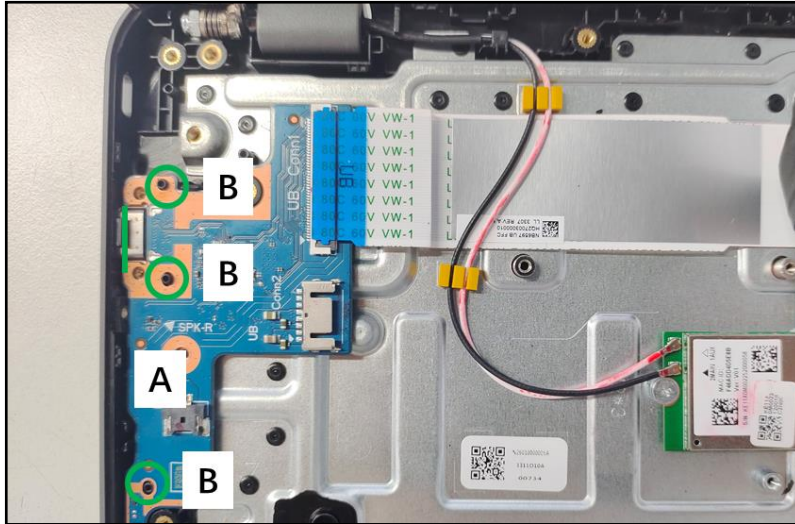

Figure 3-96. Replacing the USB Board
1. Align and slide the I/O ports on the USB board (A) into their slots on the top assembly (Figure 3-96).
2. Place the USB board onto its compartment until it is fully seated and secured to the guide pins (B) (Figure 3-96).